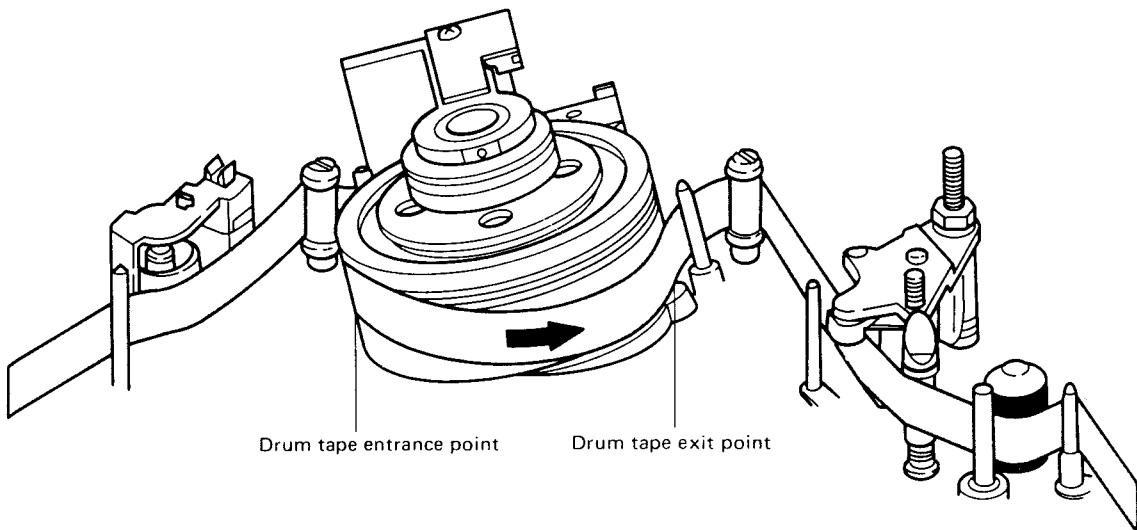
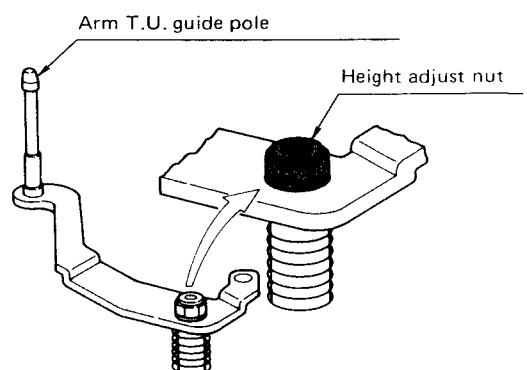

Fig. 4-11
Fig. 4-16
4) Should the tape be creased or twisted at the arm take up guide pole, rotate the height adjusting nut until the crease or twist on the tape disappears. (Refer to Fig. 4-11 and Fig. 4-16).